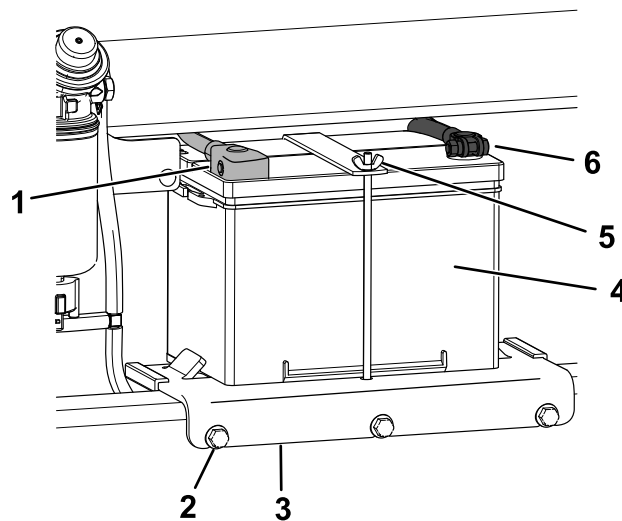

Figure 63
4. Disconnect the negative (black) ground cable from the battery post (Figure 63). Retain the fasteners.
6. Disconnect the positive (red) cable from the battery post (Figure 63). Retain the fasteners.
7. Loosen the 3 bolts securing the battery tray and remove the tray with the battery (Figure 63).
1. Place the battery on the battery tray and secure it with the wing nut and rod (Figure 63).
2. Install the battery tray to the machine and secure with the 3 bolts (Figure 63). Torque the bolts to 41 N·m (30 ft-lb).
3. Using the fasteners previously removed, install the positive (red) battery cable to the positive (+) battery terminal (Figure 63).
5. Using the fasteners previously removed, install the negative (black) battery cable to the negative (-) battery terminal (Figure 63).